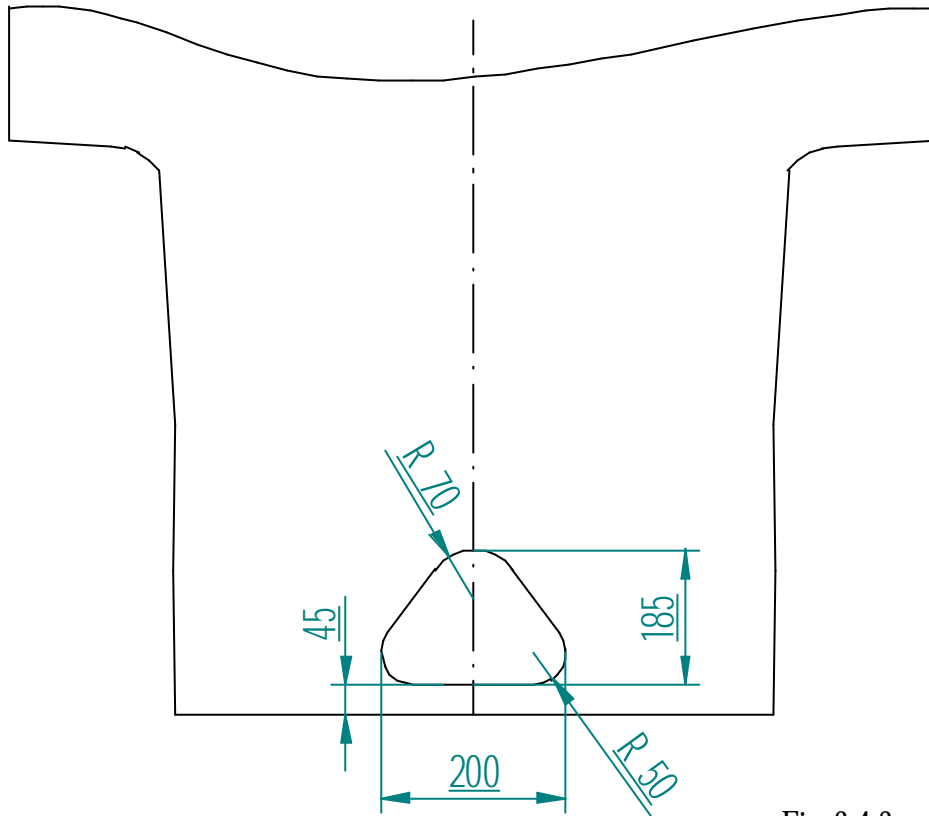

Fig. 3.4.3
Note: Due to the specific lever ratios the landing-gear can be retracted and extended with little force. In the final extended position the actuator is arrested; strong shocks from the landing-gear are directly transferred to adaptor plate no. 48000114, which is laminated onto the spar tunnel (see fig. 3.4.3).
1. Scribe the fuselage at the front as shown in figure 3.4.3 and cut it with a keyhole saw.